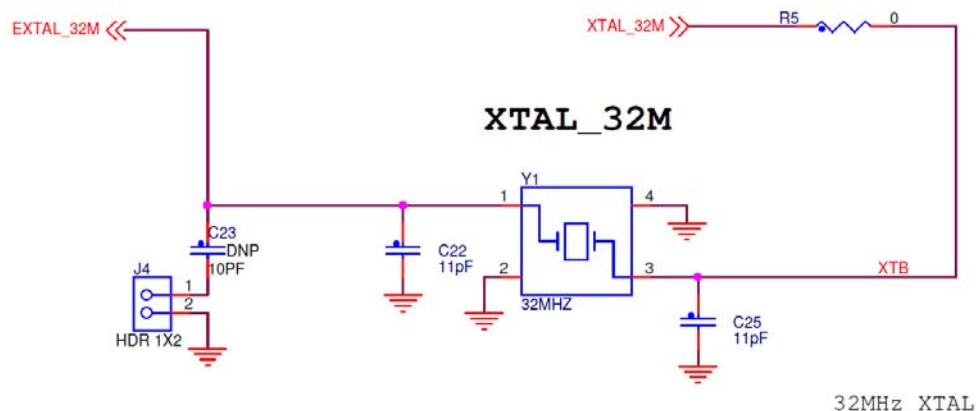

Figure 3-5. KW01-MRB 32 MHz Reference Oscillator Circuit
- 32 MHz Reference Oscillator — Figure 3-5 shows the external 32 MHz external crystal Y1. This mounted crystal must meet the MKW01Z128CHN specifications. (30 MHz in some board configurations)